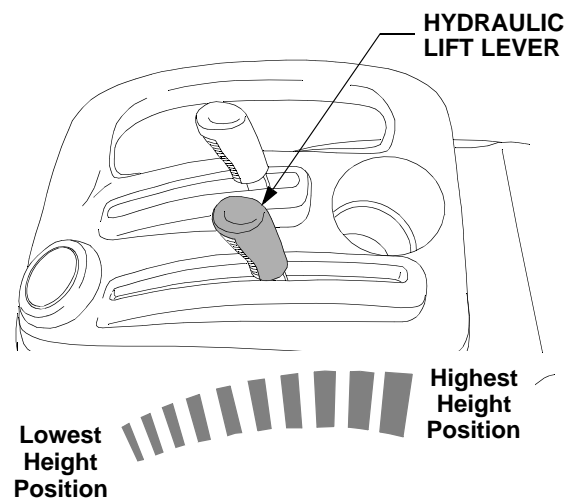

Figure 18
- Move the lift lever forward in the slot to the position that lowers the equipment to the desired height setting. Refer to Figure 18.
- Move the lift lever rearward in the slot to raise the equipment to a higher height setting, or all the way rearward to raise the equipment to the transport position. Refer to Figure 18.